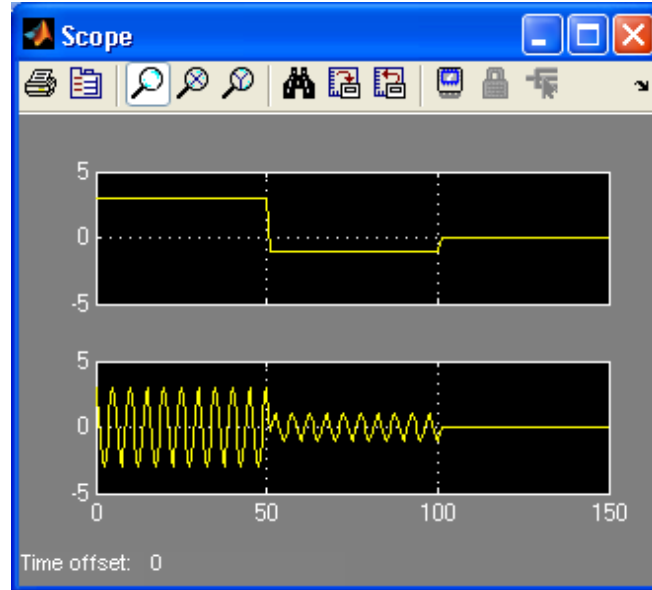

Figure 24: Scope with Correct Display
- l. Running another simulation will produce a scope output as shown in Figure 24.